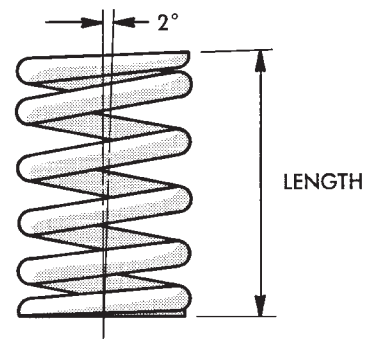

Fig. 108 Valve Spring
(8) Measure Valve spring free length and if the spring is square (Fig. 108). Refer to (Fig. 109) for specifications.